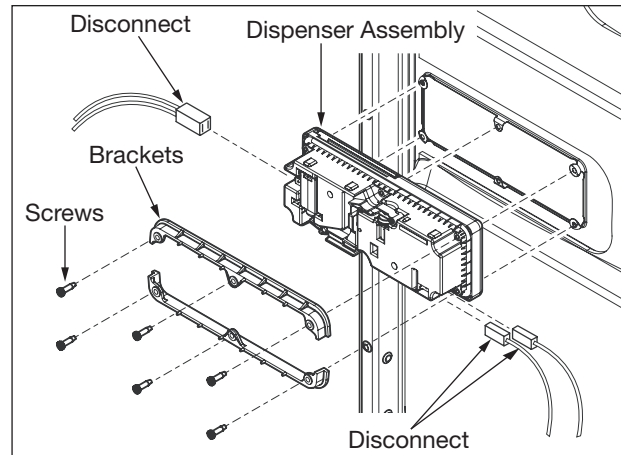

Figure 5-7. Dispenser Assembly Removal
2. Remove wire leads from retaining clips around dispenser assembly. Disconnect the wire lead from the terminal of the detergent dispenser located on the left side of dispenser assembly. (See Figure 5-7)